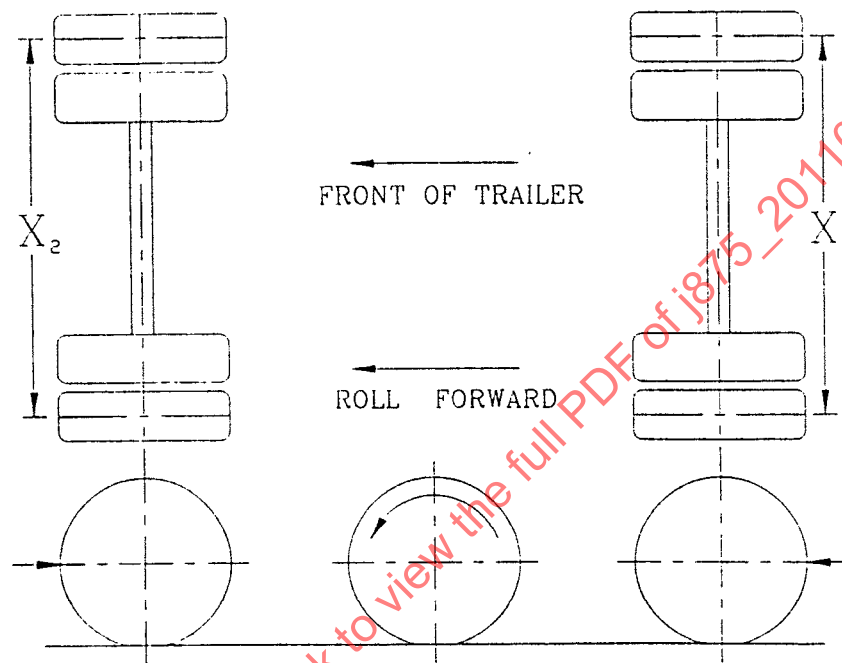

FIGURE 1—TOE-IN MEASUREMENT LOCATION
- 4.5 Measure each axle for the distance (x_1) between the scribed lines on opposite sides of the vehicle on the same axle as shown in Figure 1. Record the dimensions.